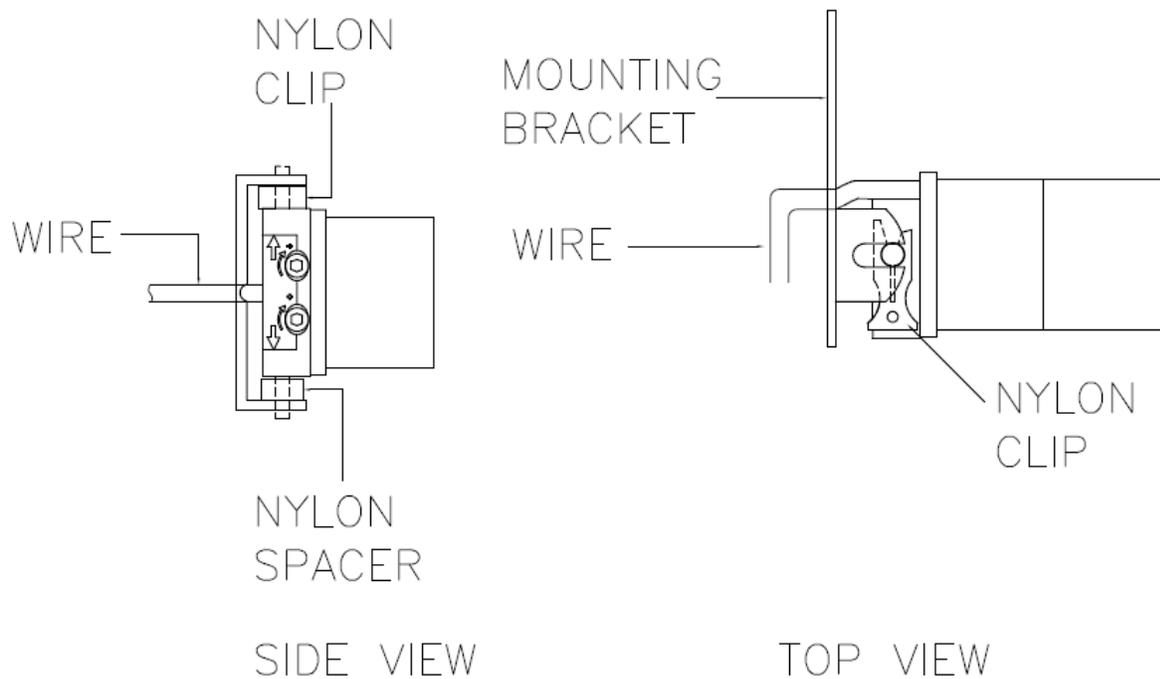

FIGURE 2
5. Unroll 10 inches of the door, then put the idler end of the roll tube on the brush holder of that track (not the idler bracket). Run the motor wire through the 3/8 hole in the motor bracket. With the limit switch facing out, fit the round nylon spacer onto the lower pin of the motor. Insert the lower pin into the bottom of the motor bracket while pulling all the wire through the hole. (See Fig. 2)
7. Install the nylon clip on the upper pin of the motor, the short side facing the roll tube. (See Fig. 2).